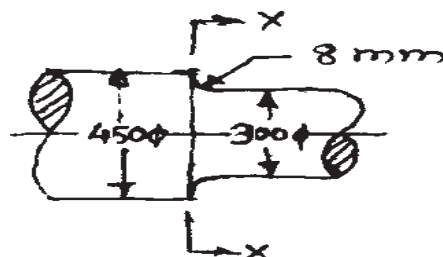

Fig. 1
- Q11)a)** Solve the equation $\frac{d^2u}{dx^2} + 2\frac{d^2u}{dy^2} = \frac{1}{x.y}$ corresponding to grid shown in following figure 1. [10]
b) The section of steel shaft is shown in fig.1 the shaft is machined by turning process. The section at X - X is subjected to constant bending moment of 500 kN - M. The shaft material has ultimate tensile strength of 500 MN/m² and yield strength 350 MN/m². Endurance limit for standard specimen in bending is 210 MN/m². The notch sensitivity factor can be taken as 0.8. The theoretical stress concentration factor may be calculated from following values : [10]